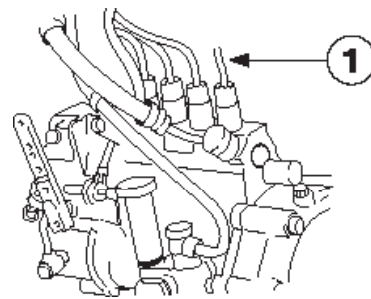

Figure 13: Fuel Injection Lines
- Remove the fuel injection line from the No. 1 fuel delivery valve on the injection pump (Figure 13).